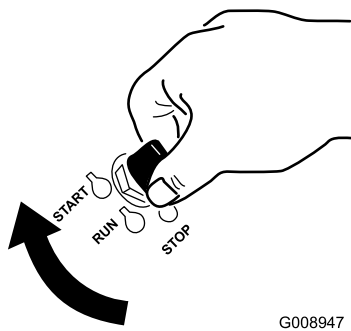

Figure 11
1. Turn the ignition key to the Start position (Figure 11). When the engines starts, release the key.
7. Turn the ignition key to the Start position (Figure 11). When the engine starts, release the key.